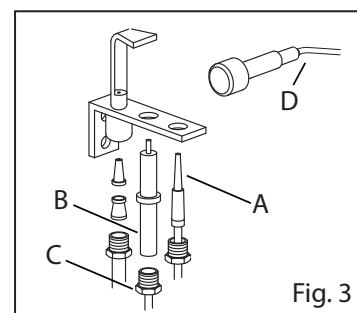

Fig. 3
- Unscrew the injector (Fig. 3)
- Unscrew the thermocouple from the pilot (Fig. 3/A)
- Disconnect the high voltage cable from the plug (Fig. 3/B)
- Unscrew the nut (Fig. 3/C)
- Connect the high voltage cable (Fig. 3/B)
- Disconnect the cable from the piezoelectric igniter (Fig. 3/D)